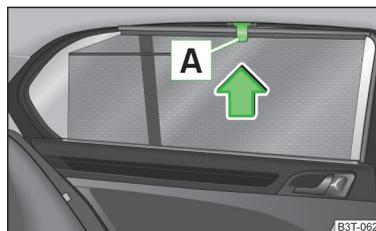

Fig. 62
- Pull out the sun screen with the handle **A** » Fig. 62 and hang it in the bracket on the top edge of the door.
➤ Remove the sun screen from the handle **A** » Fig. 62 and hold it in such a way that it can roll up slowly without being damaged.